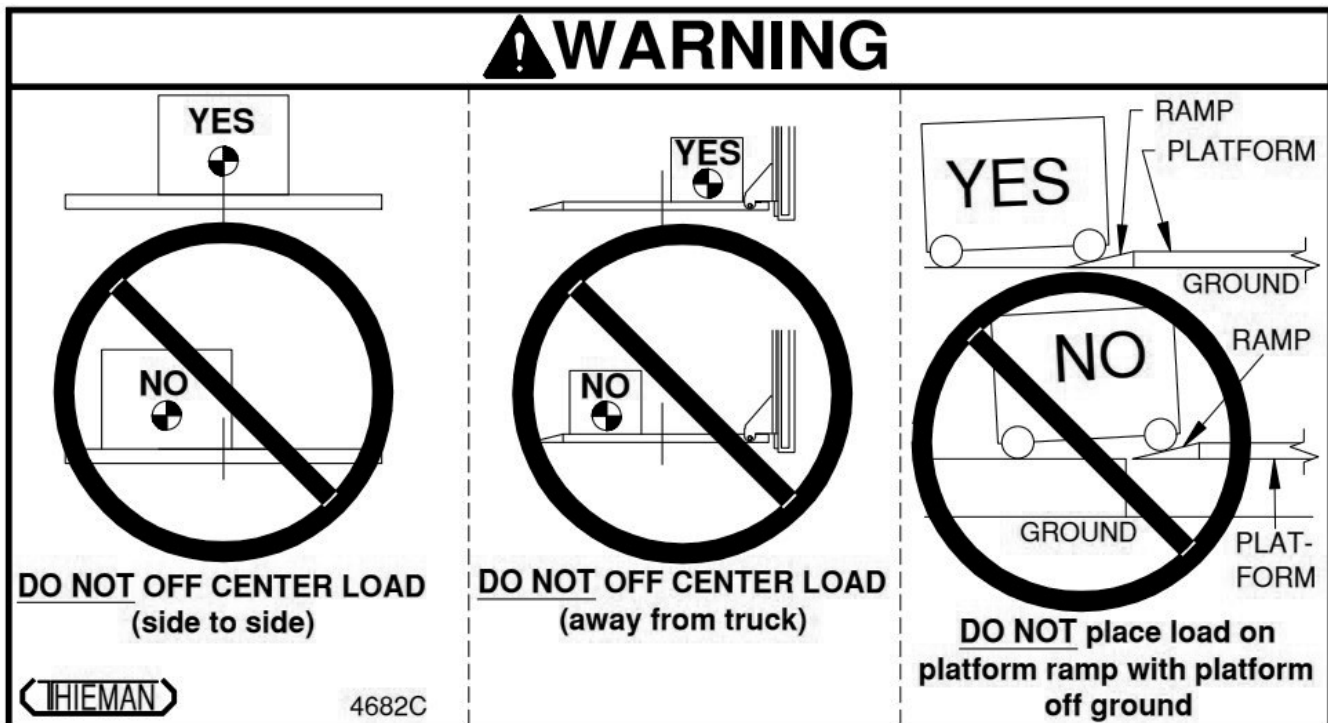

Fig. 1
9. NEVER off-center the load on the platform, from side to side or away from truck as this may overload the liftgate. The center of weight of the load should NEVER be placed beyond the center of the platform load surface, away from truck. Loads should be placed close to platform edge nearest truck. See figure 1.